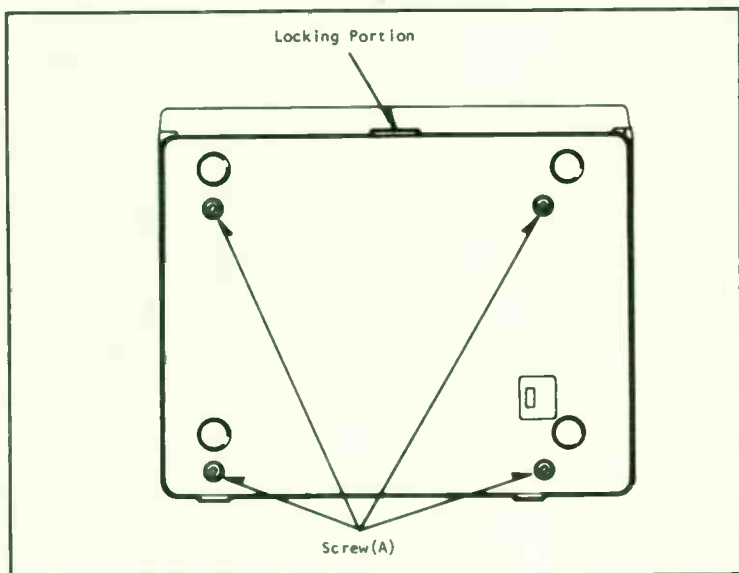

Fig. 9-4. Bottom case removal (courtesy of General Electric).
2—Remove 4 screws (A) as shown in Fig. 9-4. Now remove the bottom case by lifting the rear portion of it. Note: when reinstalling, first insert the locking portion into the slot of the front panel. Final adjustments are required when the cassette guide and the cassette holder unit were replaced and /or removed.